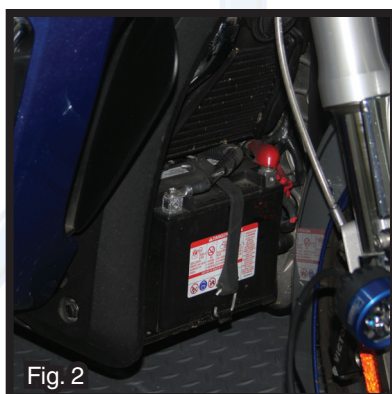

Fig. 2
- Connect the red and black battery cables from the wiring harness to the positive and negative terminals of the battery. (Fig. 2)